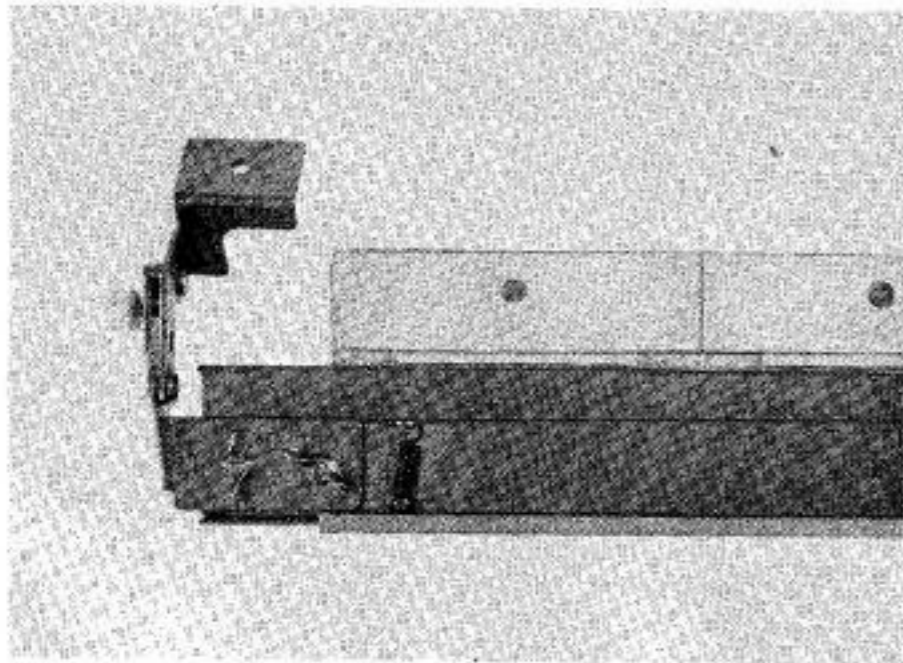

Fig. 3
- (2) Place both the left and right hand Mounting Joints in position on the back of the Frame and tighten wing nuts firmly. (See Fig. 3)